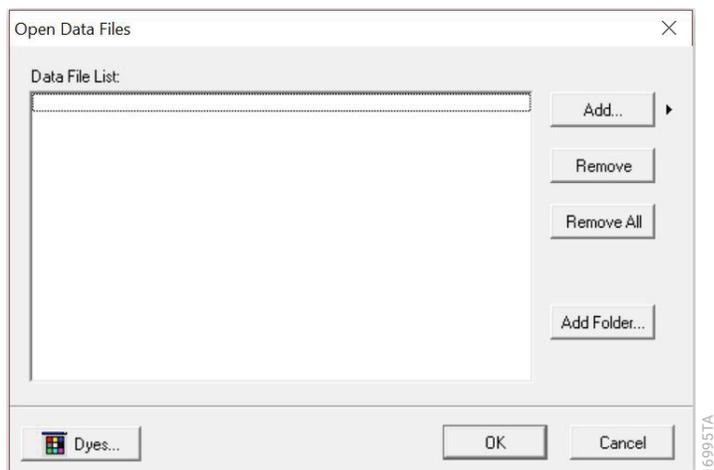

Figure 17. The GMHID-Spectrum Data File List.
4. Select **Open**, and the selected files will appear in the Data File List (Figure 17).